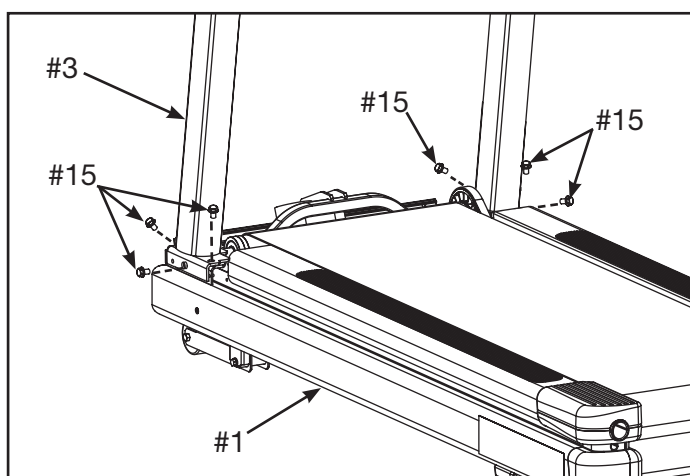

Figure 4
- D.** Carefully lift the upright assembly (#3) into the proper location. See Figure 4.
- E.** Using a 9/16" socket wrench, secure the upright assembly (#3) to the base assembly (#1) with six bolts, 3/8-16 x .625" (#15). See Figure 4.